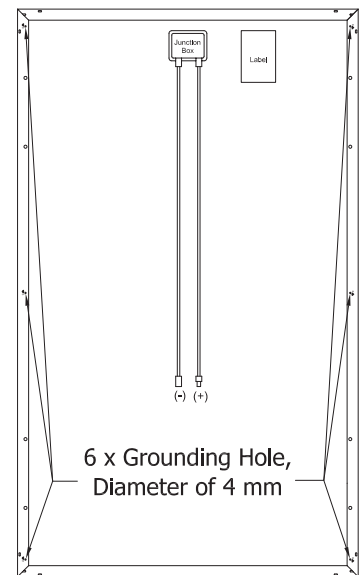

Fig 3.1
- Each long side frame has 3 grounding holes with 4 mm diameter and marked with a symbol “G” or “⚡” adjacent to their location for ground contact. The location of grounding holes are shown on Fig. 3.1.